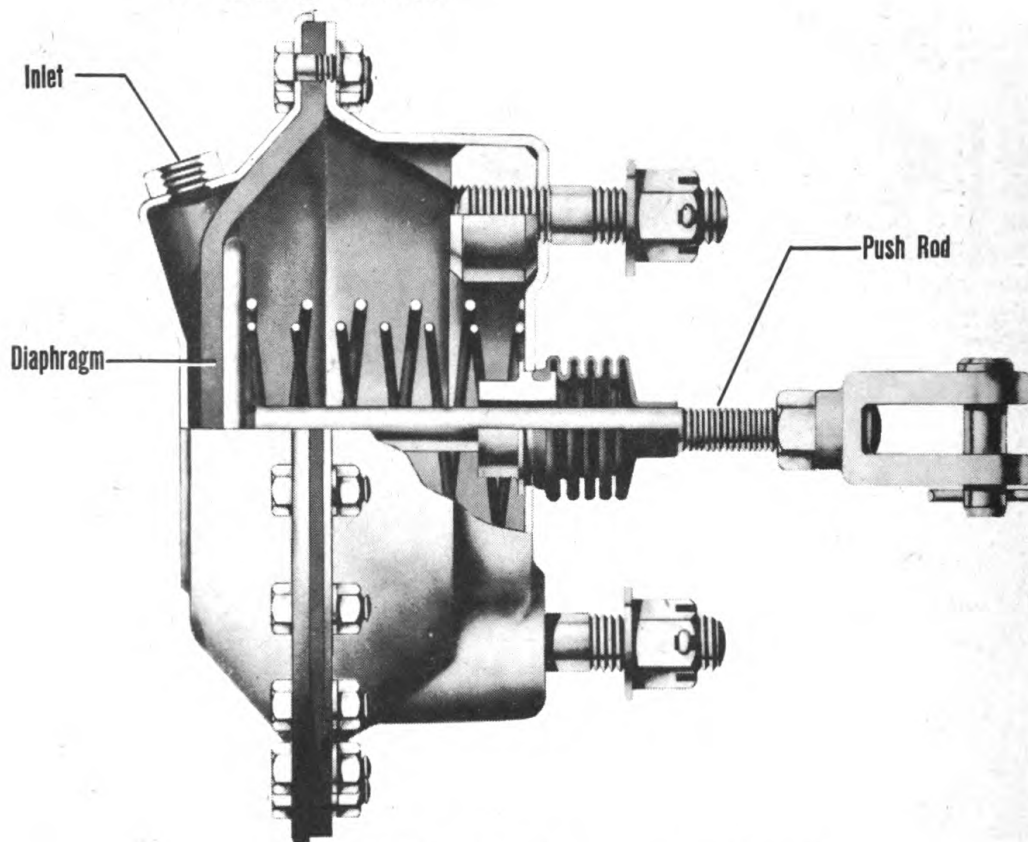

Figure 29—Cross Section of Brake Chamber.
3. Brake Chambers. (See figure 29.)